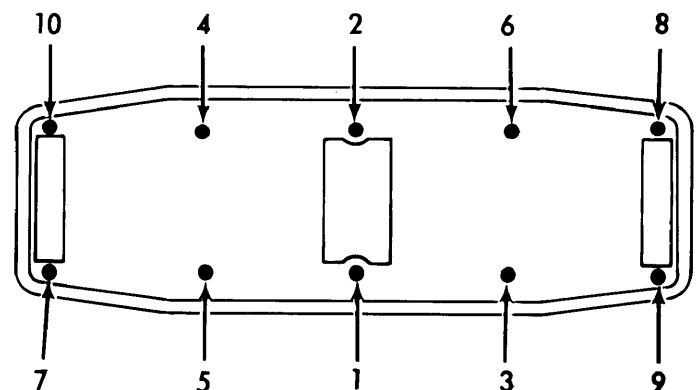

Fig. 1 Cylinder Head Tightening Sequence
3) Loosen timing belt adjusting and pivot bolt, then remove camshaft pulley bolt and remove pulley. Take off fuel pump and remove distributor. Remove oil pump gear holder and pump gear and shaft. Loosen bolts in reverse of tightening sequence (See Fig. 1), a little at a time and lift off cylinder head.
Installation - To install cylinder head, reverse removal procedure and tighten bolts in sequence shown in Fig. 1.